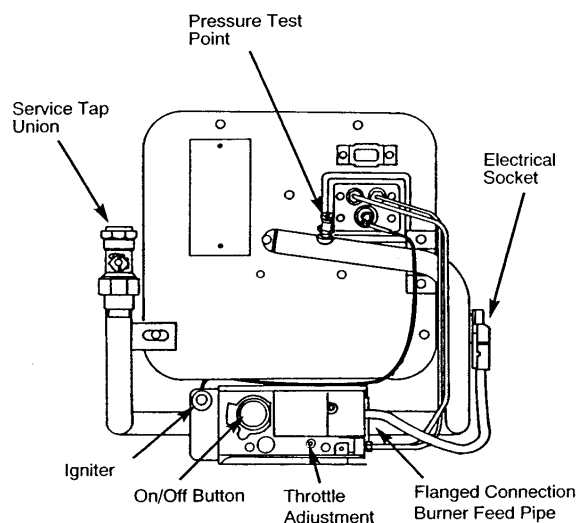

fig 7 - Burner Controls
This is done by adjusting the throttle screw (red plastic surround) in either direction as required (Fig 7).
- 4) Turn off the gas supply at the service tap and disconnect the union (Fig. 7).
- 5) Disconnect the electrical socket by pulling upwards (Fig. 7).
- 6) Remove the four wing nuts and carefully withdraw the burner and controls assembly (Fig. 7).
- 21) Hold in the ON/OFF button on the gas control valve (Fig 7) . Press in the igniter button and release. Repeat until the pilot lights. Hold in the ON/OFF button for a further 20 seconds and then release. The pilot should then stay alight. (IF THE PILOT FAILS TO REMAIN ALIGHT, TURN THE ON/OFF BUTTON FULLY CLOCKWISE AND RELEASE, WAIT 3 MINUTES AND START AGAIN FROM THE BEGINNING OF THIS PARAGRAPH.) The flame should be without a yellow tip and be approximately 25mm (1 in) long. No adjustment of the pilot flame is necessary as the pilot jet is sized to give the correct flame length at 20 mbar (8 in wg) inlet pressure.
- 23) Remove the pressure test point screw (Fig 7). Connect a pressure gauge and operate the burner by turning the thermostat knob to its highest setting.
- 24) Check that the pressure corresponding to the range rated output is correct for the installation (see data label). If necessary adjust the appliance throttle (Fig 7).
- 6) Remove the valve complete with the heat shield and inlet pipe by disconnecting the flanged burner feed pipe (Fig 7).